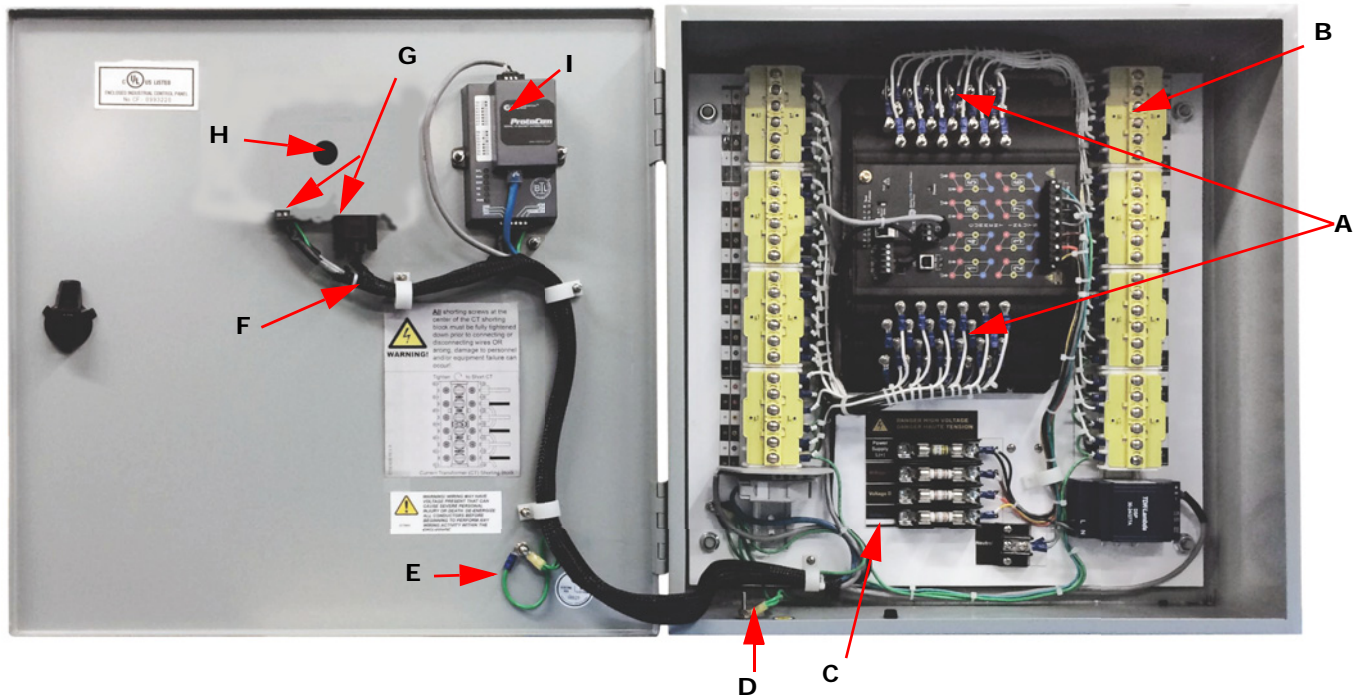

Figure 2.1: MP200™ in Enclosure as Shipped
6. Carefully insert the rear module (2), with the yellow button to the top of the enclosure, and push the rear module until it locks into place. When it is in place you will hear a "click."
7. Connect the cable to the rear module: see Figure 2-1.